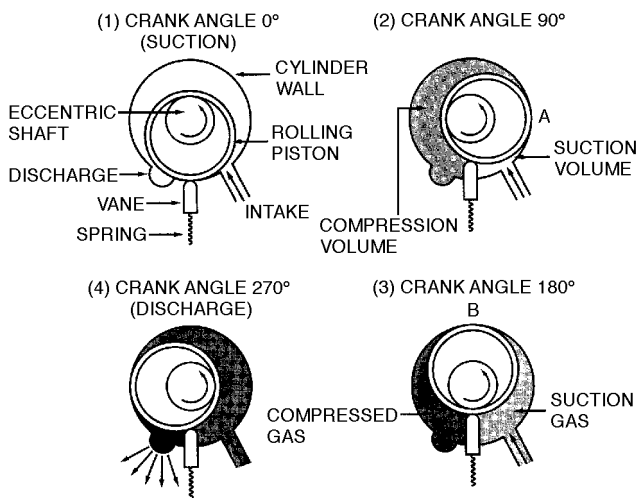

FIGURE 28 — ROTARY COMPRESSOR COMPRESSION PROCESS
The rotary compression process (Figure 28), starts at top dead center as shown in (1). Suction gas flows through the suction inlet and into the cylinder area. As the shaft rotates through 90 degrees, the rolling piston moves to position A as shown in (2). The suction volume is now the area defined by point A and the tip of the vane. Gas in the remaining volume has been compressed above suction pressure. After another 90 degrees of shaft rotation, the rolling piston has moved to position B as shown in (3). Both the compressed gas and suction gas volumes are now equal. Another 90 degrees of shaft rotation is shown in (4). Compressed gas has reached a pressure sufficient to open the discharge valve, and flows from the cylinder into the compressor shell. After another 90 degrees of shaft rotation, the entire process begins again. Continuous suction and discharge allows for a smooth compression process.